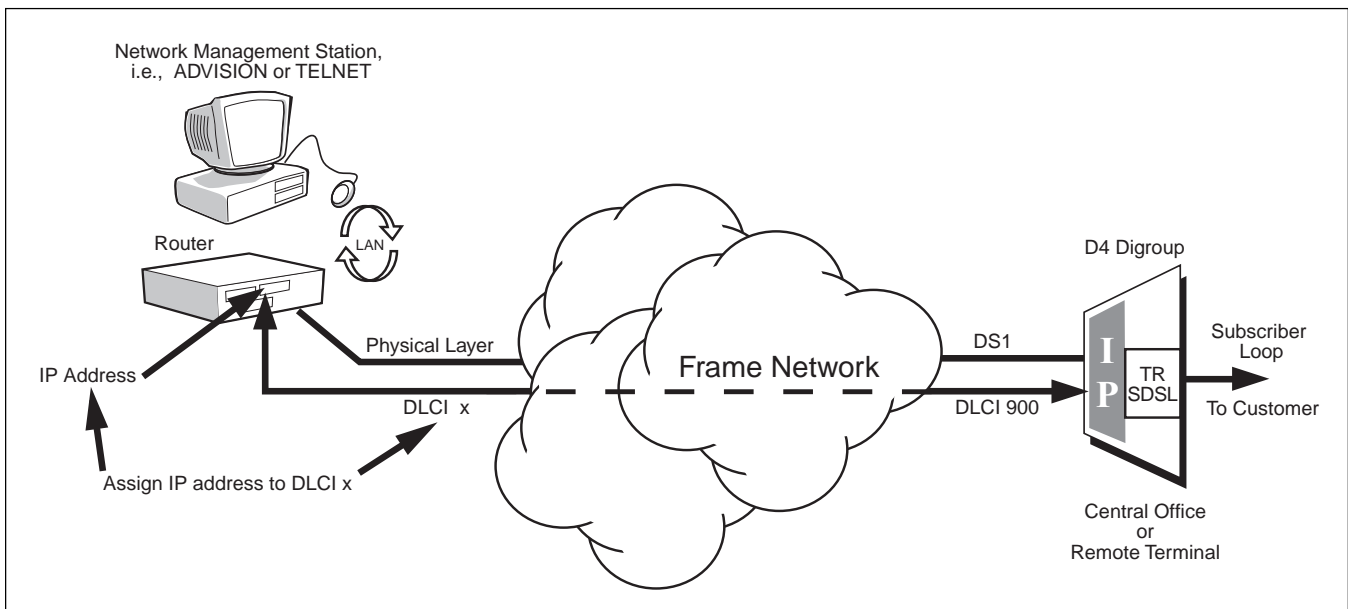

Figure 3. Establishment of Management Addresses
- Configure a PVC between the Network Operation Center and the digroup equipped with TR SDSL. DLCI 900 is recognized by the digroup as the management PVC. A single IP address is required to manage the digroup and all channel units. See **Figure 3**.